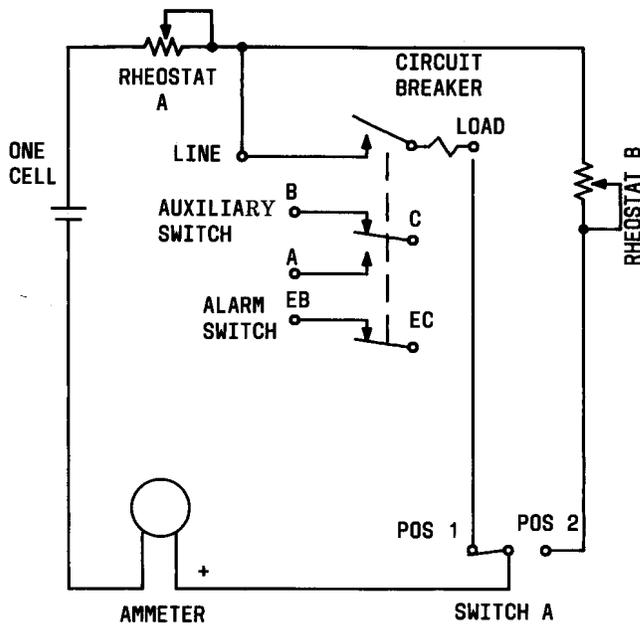

Fig. 44—Checking Circuits—DC Breakers—KS-21124, L1, L2, L3
- (v) **KS-21124:** To check a KS-21124 circuit breaker, proceed in accordance with Method 1. Refer to Fig. 44 or 45. In addition to the